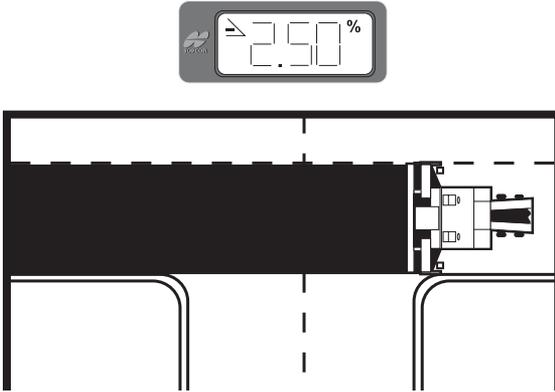
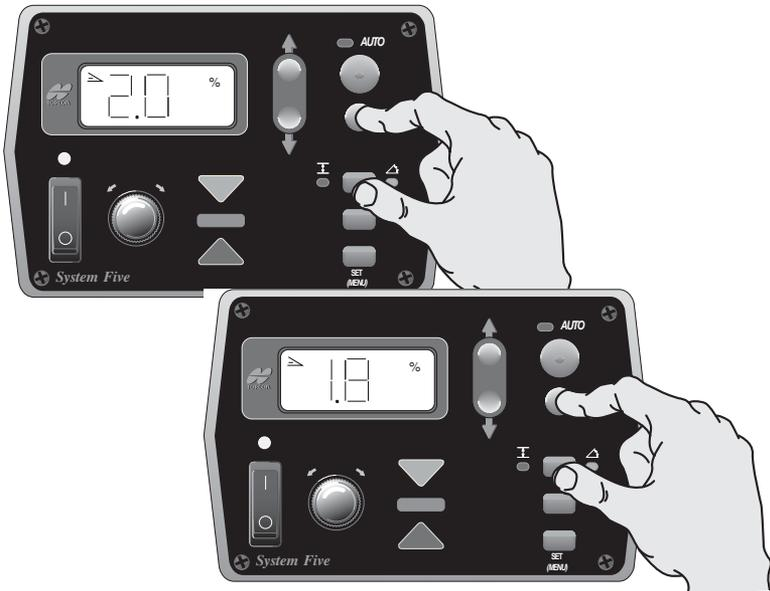

Figure 7-20. Paving Through Intersection
Figure 7-21. Returning to Manual and Surveying On-Grade
4. Upon reaching the end of the intersection (Figure 7-20), put the Control Box back in manual mode, change to slope control, and Survey the slope to get an on-grade signal (Figure 7-21).